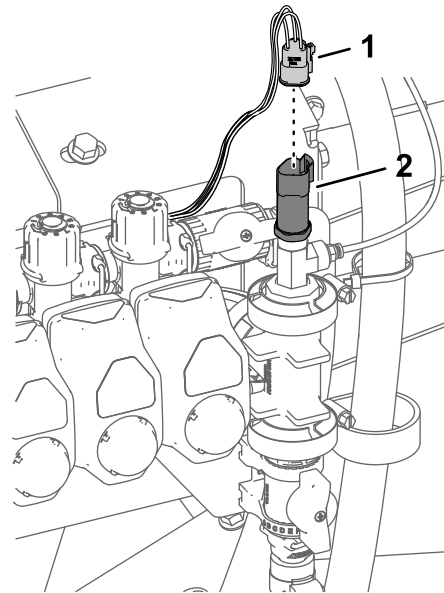

Figure 46
4. Connect the 3-socket connector for the pressure transducer (Figure 46).